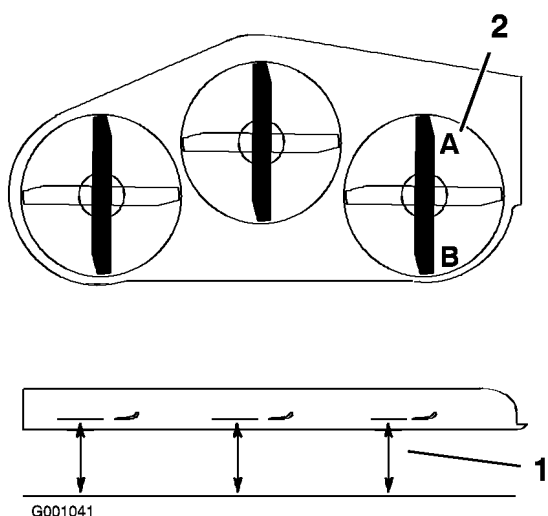

Figure 60
- Position one blade front-to-rear (Figure 60). Measure at **A** and **B** locations (Figure 60) from a level surface to the cutting edge of the blade tips (Figure 60).
4. Position the blades front-to-rear. Measure at **C** and **D** locations (Figure 60) from a level surface to the cutting edge of the blades.